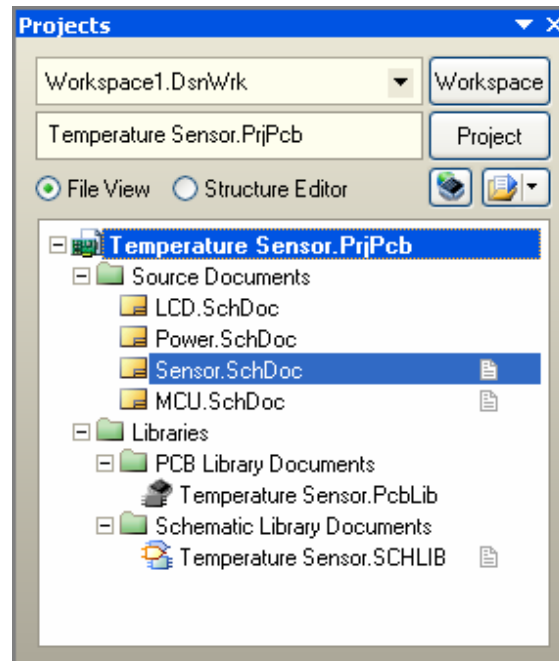

Figure 21. Project structure after completing the MCU schematic.
At this stage in the training, your Temperature Sensor project should look like Figure 21. However, the `Sensor.SchDoc` and the project libraries are not there as yet. To complete it:
3. Also you'll need to add the library files as shown in Figure 21 to the project and save the project PCB.